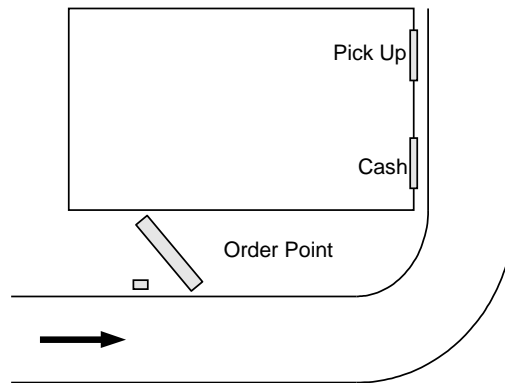

Figure 1
- A *Single Drive Thru* (see Figure 1) is the most common configuration. It is comprised of one lane of traffic with one order point, and one or two drive thru windows for payment and pick up.